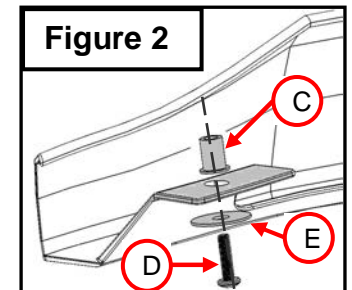

Figure 2
3. Attach supplied hardware to hood shield. **(Figure 2)** Mark for pre-drill holes using a marker and referencing the slots in the Putco Hood Shield.